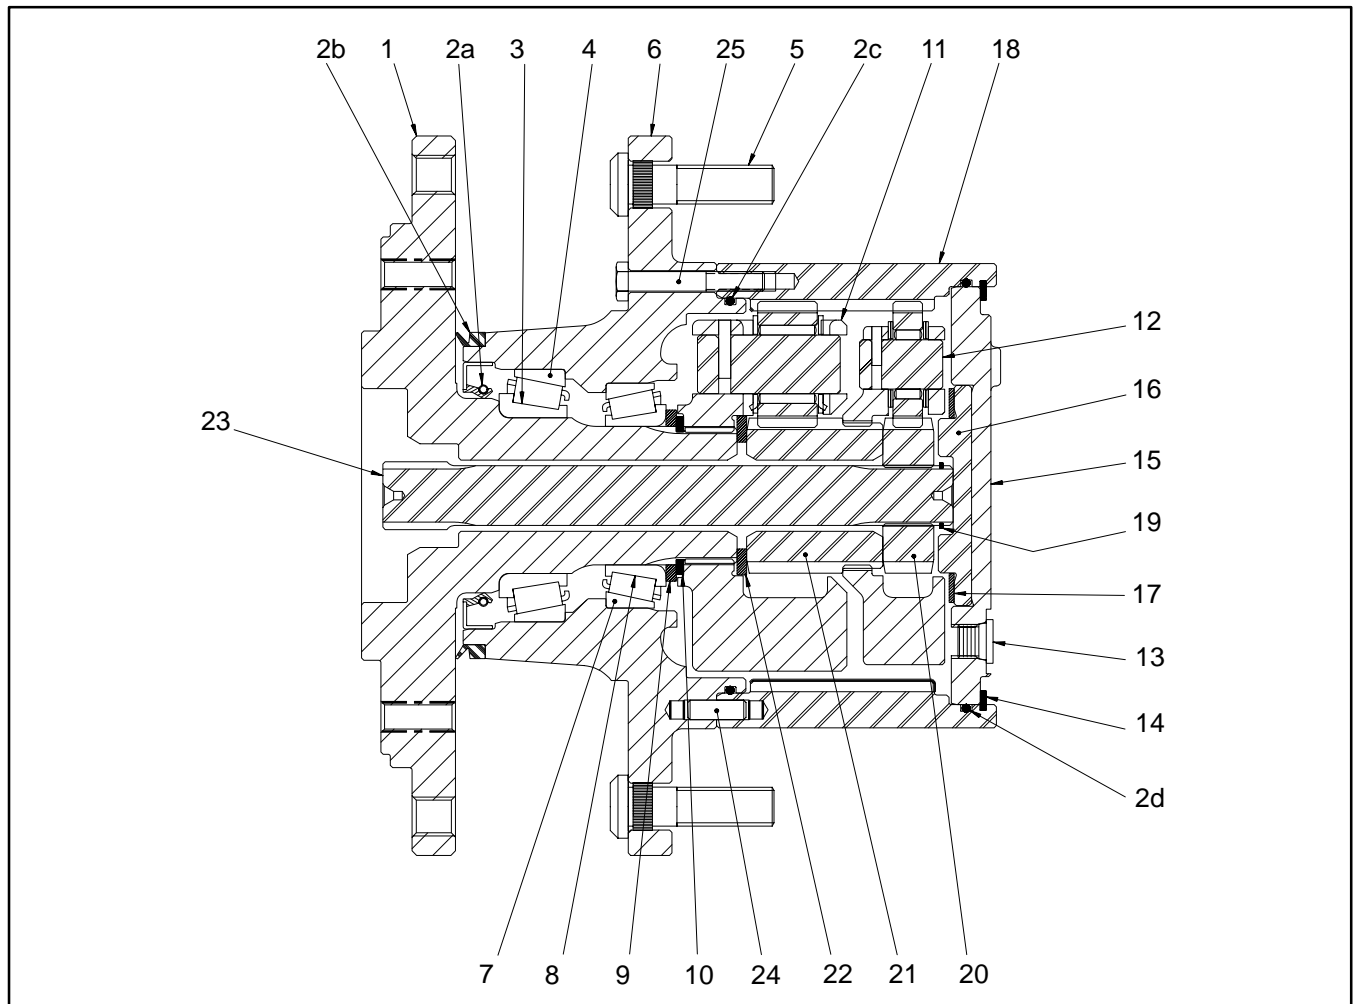

Figure 13a
2. Install lip seal (2a) to spindle (1).
3. Press bearing cups (4 and 7) into housing (6).
4. Press bearing cone (3) onto spindle (1).
5. Install seal (2b) to housing (6). Assemble housing (6) to spindle (1). Make sure seals are installed correctly (Fig. 13a).
6. Press bearing cone (8) onto spindle and secure with thrust washer (9) and retaining ring (10).
7. Install seal (2c), then assemble ring gear (18) to housing (6) with capscrews (25).
8. Install secondary carrier assembly (11).
9. Install sun gear (21).
10. Install primary carrier assembly (12).
12. Install thrust washer (17) and input spacer (16).
13. Install seal (2d), then install cover (15). Secure cover with retaining ring (14).